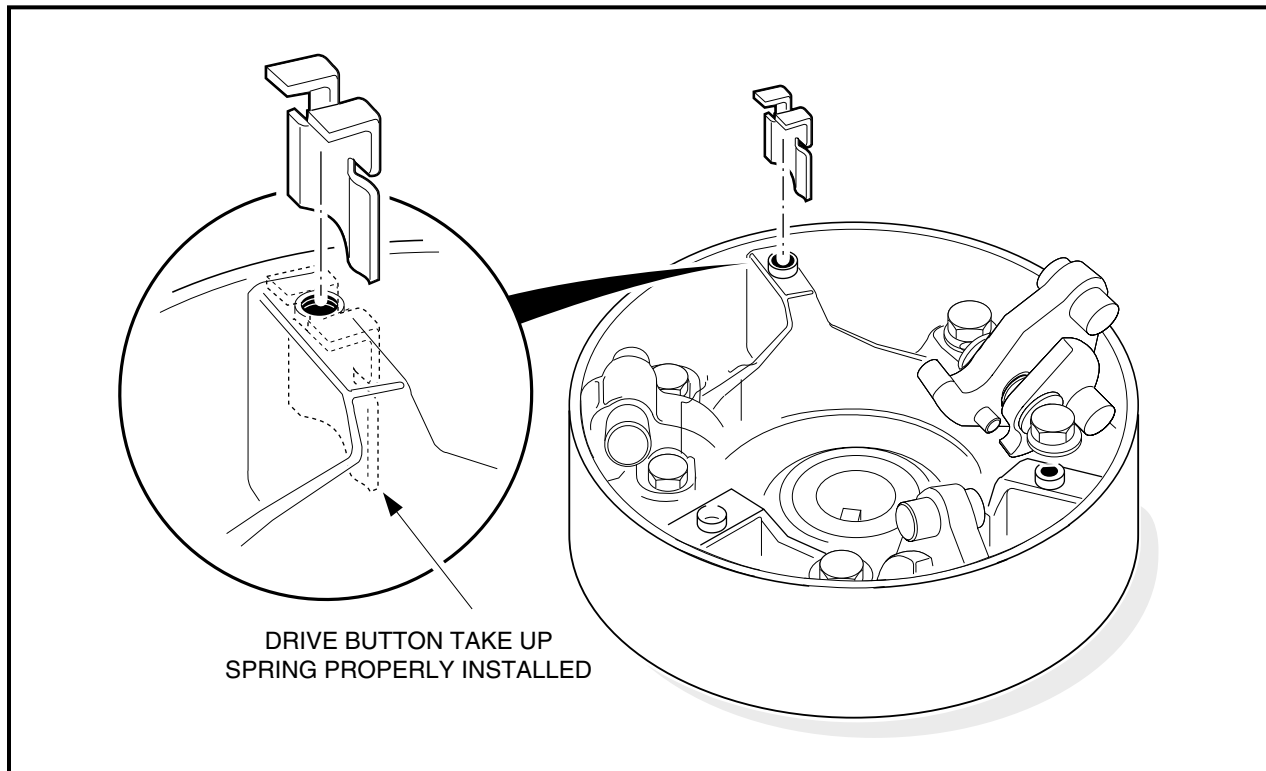

Figure 17-15 Correct Orientation of Drive Button Take-up Spring
- 13.1. Install spring on right side of any one of the three button mounting posts (when looking into the interior of the clutch drive hub, and with a rib at a twelve o'clock position) as shown (**Figure 17-15, Page 17-13**).